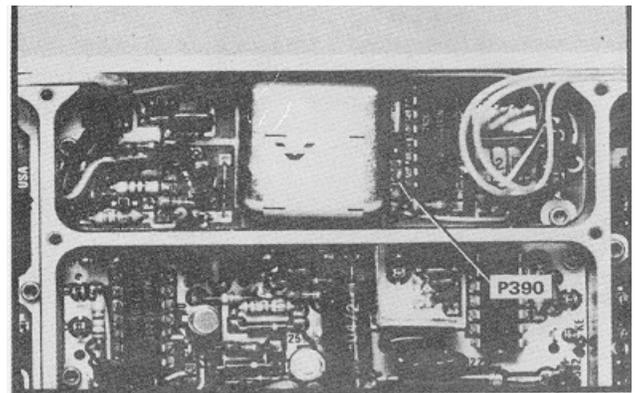

Fig. 4-3. Test point location for the 10 MHz Crystal Oscillator.
2. Connect a 1X probe from the Input of the counter to the output of the crystal reference oscillator at P390 (Fig. 4-3). Note the frequency.